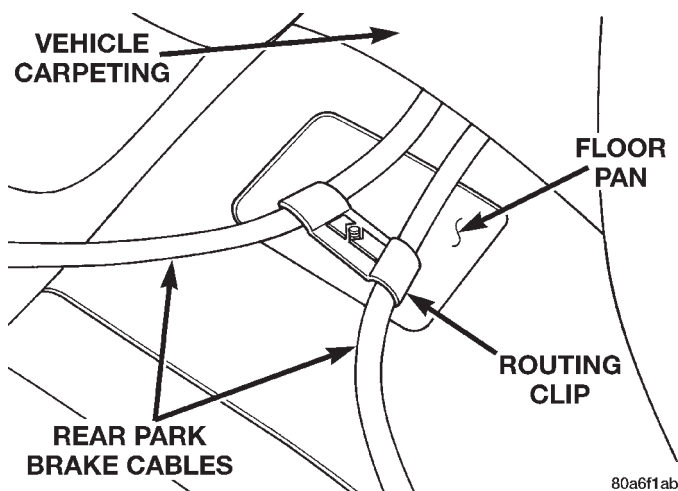

**Fig. 138 Park Brake Cable Attachment To Floor Pan**
(11) Remove the rear seat lower cushion from the vehicle.
(12) Remove scuff plates from right and left door sills. Scuff plates are attached to door sills using clips on bottom of scuff plates. Remove by carefully prying scuff plate retaining clips out of door sills.
(13) Remove the quarter trim panel from both sides of the vehicle. Refer to Group 23 Body in this group of the service manual for the required removal procedure.
(14) Remove the 2 wiring harness routing clips from the cross car beam.
(15) Remove the 2 clips attaching the carpeting to the cross car beam.
(16) Fold rear carpeting forward to expose park brake cables.
(17) Remove the routing clip (Fig. 138) attaching the rear park brake cables to the floor pan.
(13) Install the routing bracket holding park brake cables to the floor pan of the vehicle (Fig. 138).